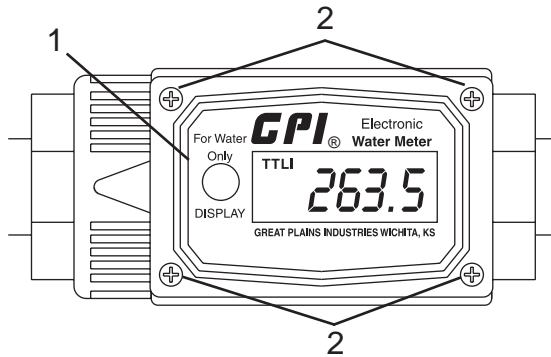

Figure 115
1. Remove four screws (Figure 115, Item 2) from the face of the meter and remove the faceplate (Figure 115, Item 1) from the meter body.